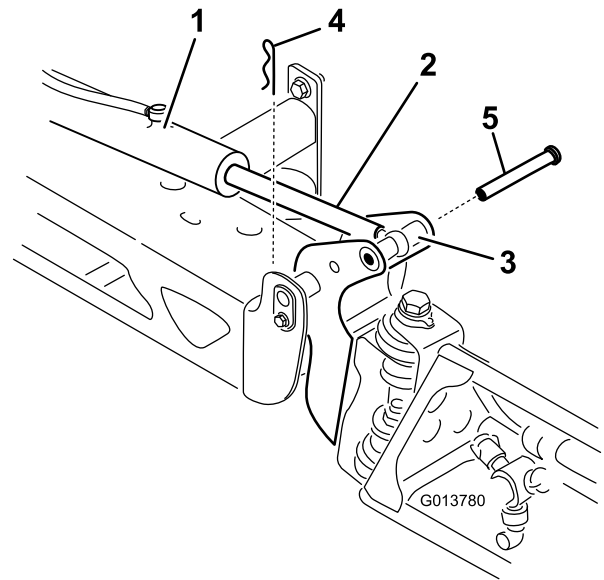

Figure 62
7. While supporting the spray section, insert the clevis pin through both boom pivot and actuator rod (Figure 62).
2. Remove the hairpin from the clevis pin (Figure 62).
3. Lift up on the section, remove the clevis pin, and slowly lower the section to the ground (Figure 62).